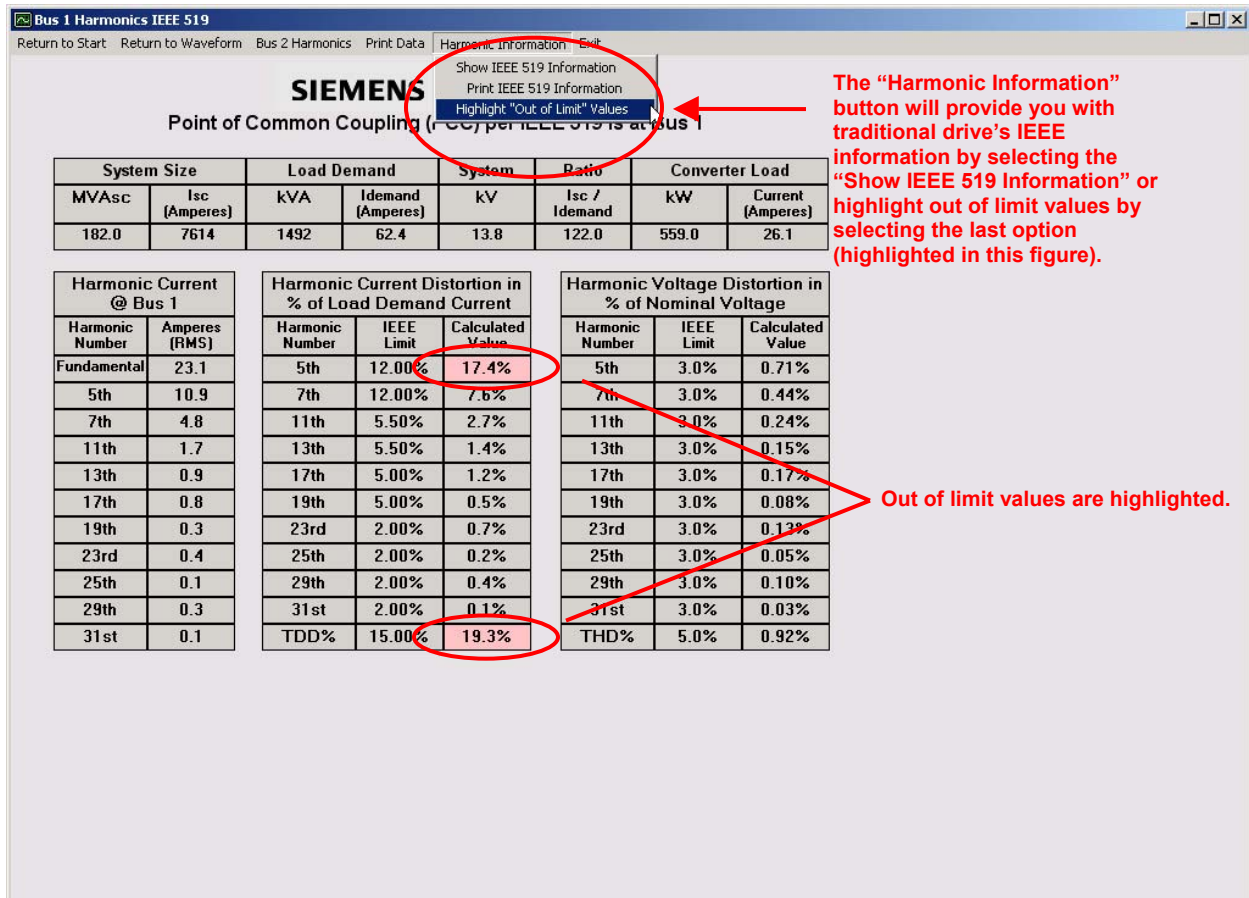

Figure 15 -- Out of Limit Values for Traditional Drives
b. You can also click the **Harmonic Information** button to view the **Out of Limit** values (Figure 15).